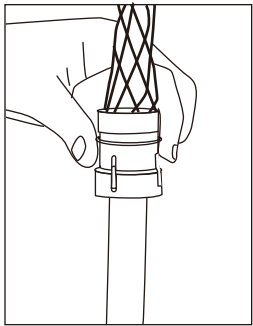

Fig. 10
2. Hold Maxis® Grips with the Cam Housing in a downward position and push up the lock ring (Fig 10).